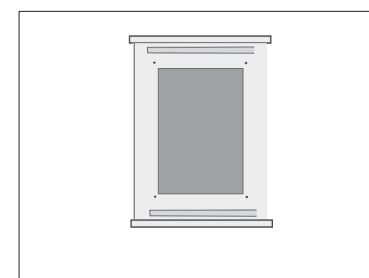

Figure 8
*Hold the back frame of your mirror to the wall fitting of the insert open hole area. This is where a friend will come in handy. While you are holding the frame in place against a wall, confirm that the frame is square and level. Locate the (6) mounting holes in the frame. They are 16" apart and should be centered on the two studs in your wall. While holding the frame in place, install the (6) supplied screws into the studs. With the screws installed the frame is now self supporting. If you did not hit a stud you may need to adjust your mirror right or left as necessary. Be sure to anchor your mirror frame to the studs. The mirrors are heavy and if only screwed into drywall over time, they WILL fail, possibly causing damage and injury. So make sure the frame is screwed to the studs. See Figures 8*